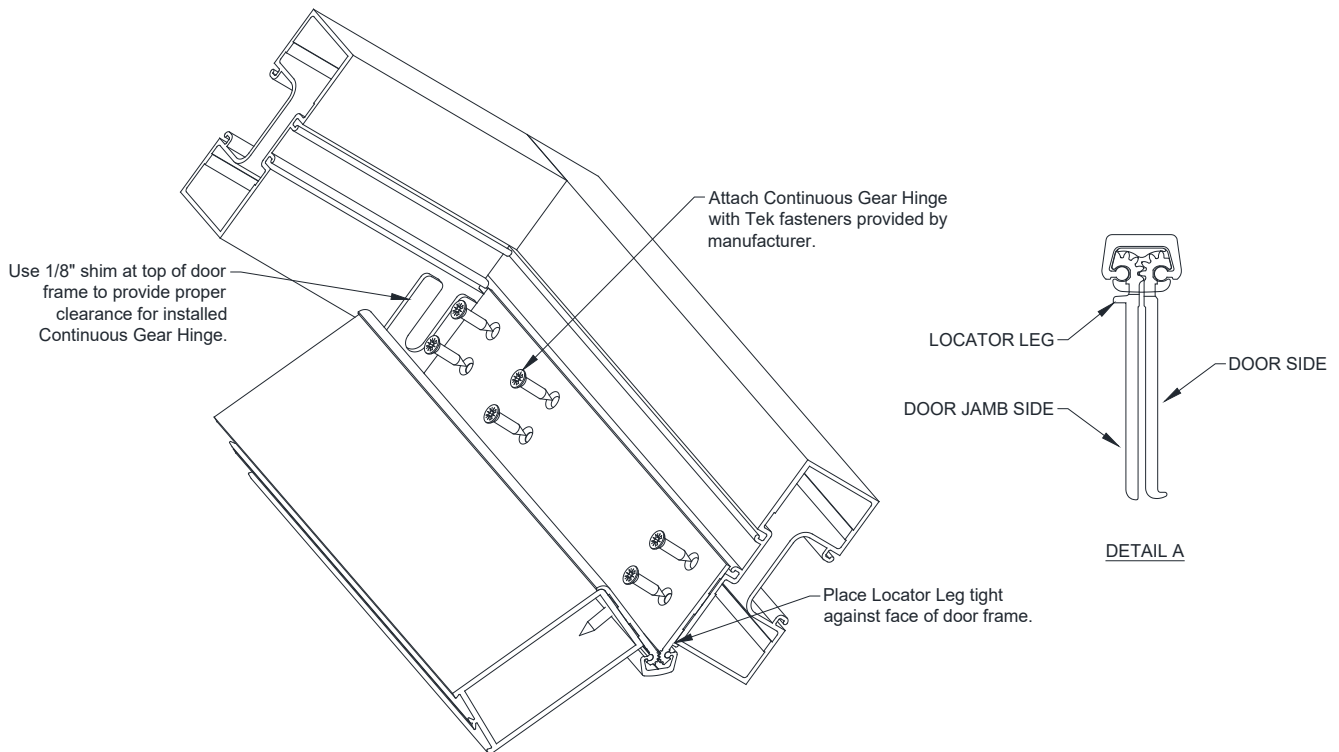

Figure 51: Hanging Door with Continuous Gear Hinge
- 17.2 Align Continuous Gear Hinge to Door Jamb by using the Locator Leg as a guide. Locator Leg is identified in Figure 51 Detail A.